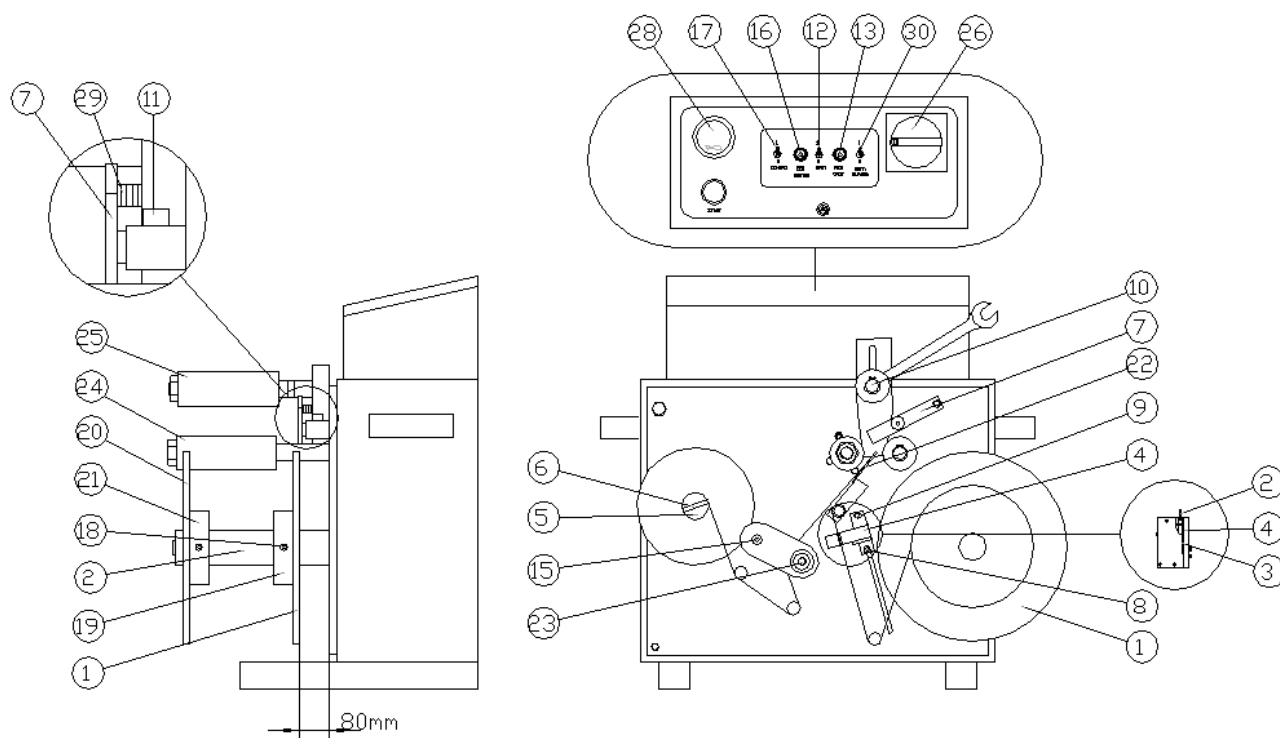

fig. 3
- Position the guide 1 (fig. 3) on the pivot 2, so that the distance between the support and the vertical plane of the machine is 80 mm.
- After having installed the inferior support and having checked his position, insert the label spool in the pivot 2 (fig. 3), putting it on the ring 19. Then put the other support 20, so that the ring goes inside the hole of the spool.
- Unwrap the paper and let it go around the pivots, following the way that is indicated in the drawing attached on the machine) and arriving near the photocell 4 (fig. 3).
- Pull with hands the part of the paper that goes on the blade, in order to take away labels until the paper arrives at the roller 5 (fig. 3).
- if it comes out less, loosen the screws 8 and 9 (fig. 3) and then move the photocell 4 (fig.3) putting it near the blame;
- loosen the screw 11 (fig. 3) that locks the the bottle retainer 7;
- Turn off the general switch 26 (fig. 3) that is on the electrical panel of the labellers;
- pass one hand in front of the sensor 17 (fig. 3). It cause the exit of one label;
- check that the label is about 5 mm out of the blade: if it comes out less, loosen the screws 12 (fig. 3) and then move the photocell 5 (fig.3) putting it near the blame; if it comes out more, make the contrary.
- Turn off the main switch 26 (fig. 3);